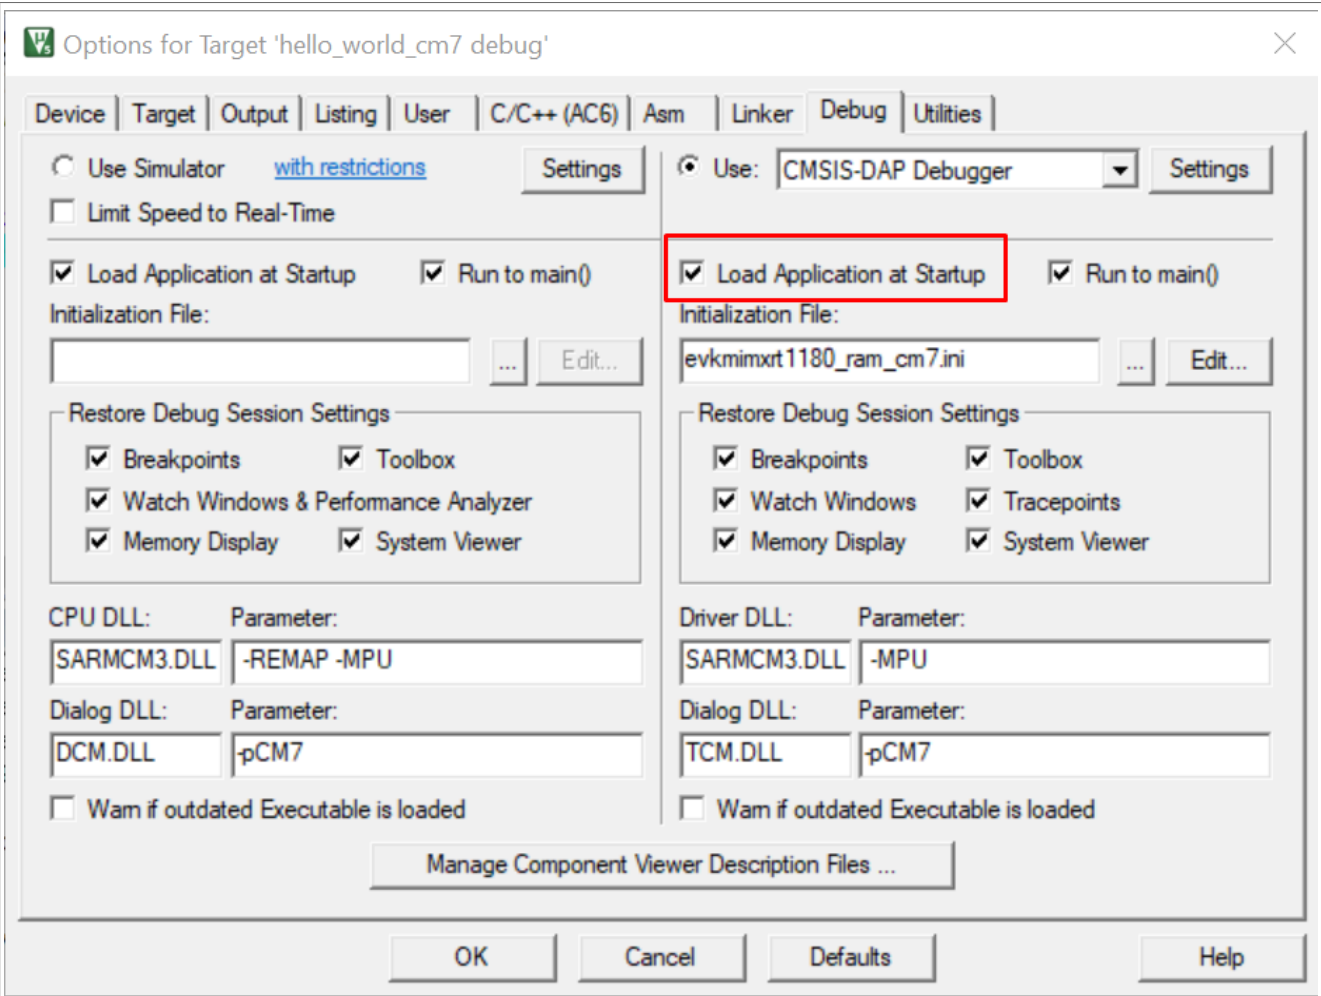

Figure 40. Load Application at Startup
2. For the secondary core project, select the **Load Application at Startup** button as shown in Figure 40. These steps are common for both single-core and dual-core applications in μ Vision.